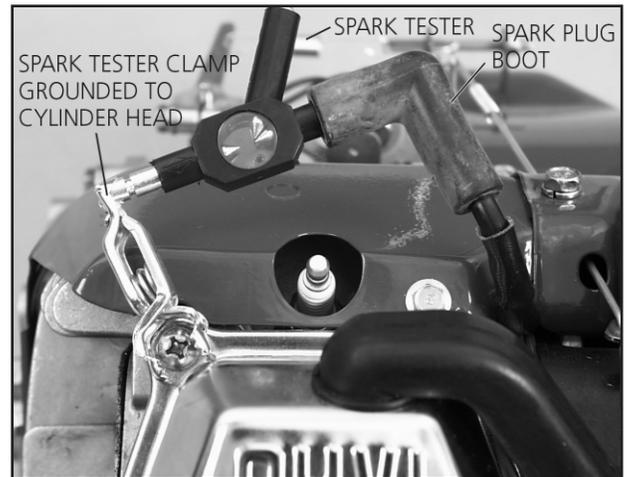

Figure 8.5 — Testing Ignition System
2. See Figure 8.5. Attach the spark tester clamp to the engine cylinder head (frame ground). Attach the spark plug high tension lead to the tester terminal.